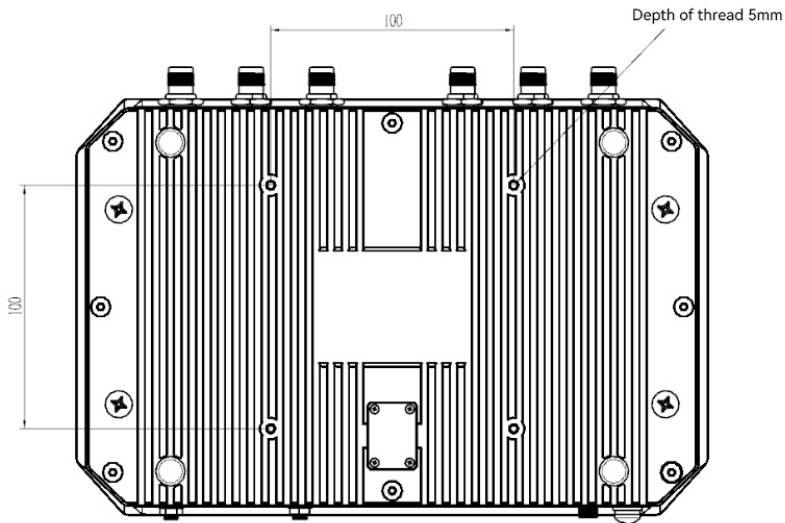

Figure 4.2 VESA 100*100 Fixing Hole Positions
1) Fix with standard VESA 100*100 fixing bracket, as shown in Figure 4.2 below.